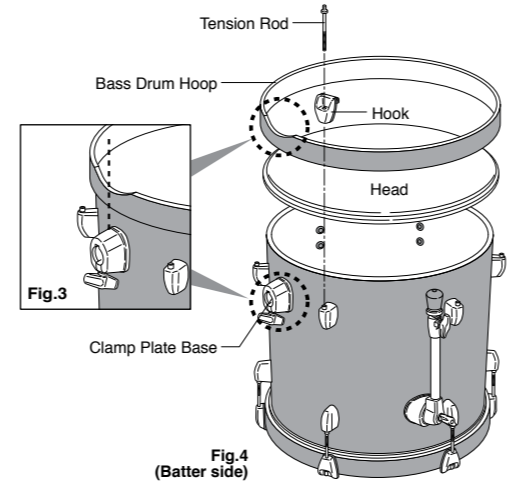

Fig.4
3. Turn the shell over to the batter side and place the other Head and Bass Drum Hoop on the Shell. Position the Bass Drum Hoop so that the cut is aligned with the Clamp Plate Base (Fig.3). Attach the Tension Rods/Hooks in the same way as the front side (Fig.4).